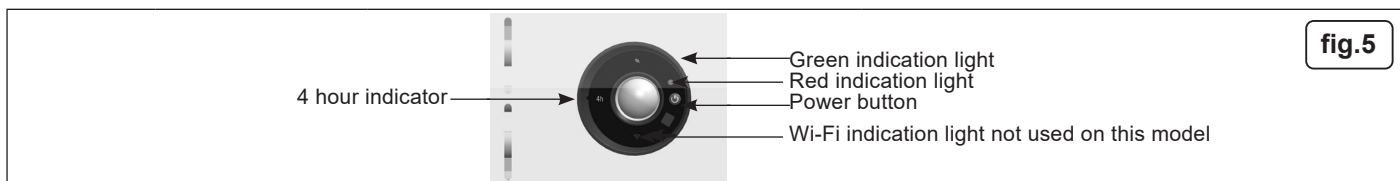

fig.5
- 5.2.1. On the front of the heater is the control panel ON/OFF switch. See fig.5. Use button to turn the heater ON or OFF. Hold the button down for the timer function, this function includes a delay-off feature with two settings, by holding the button down operates the delay function. See table on the following page.